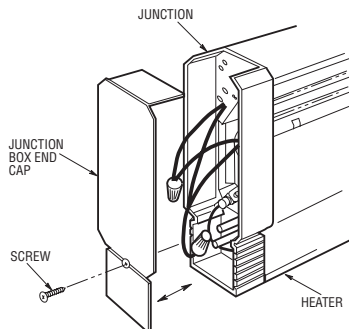

Figure 3. Removal of End Cap
- Remove the left or right junction box end cap by removing the screw in the end of the heater and sliding the cap outward from the heater (Figure 3).